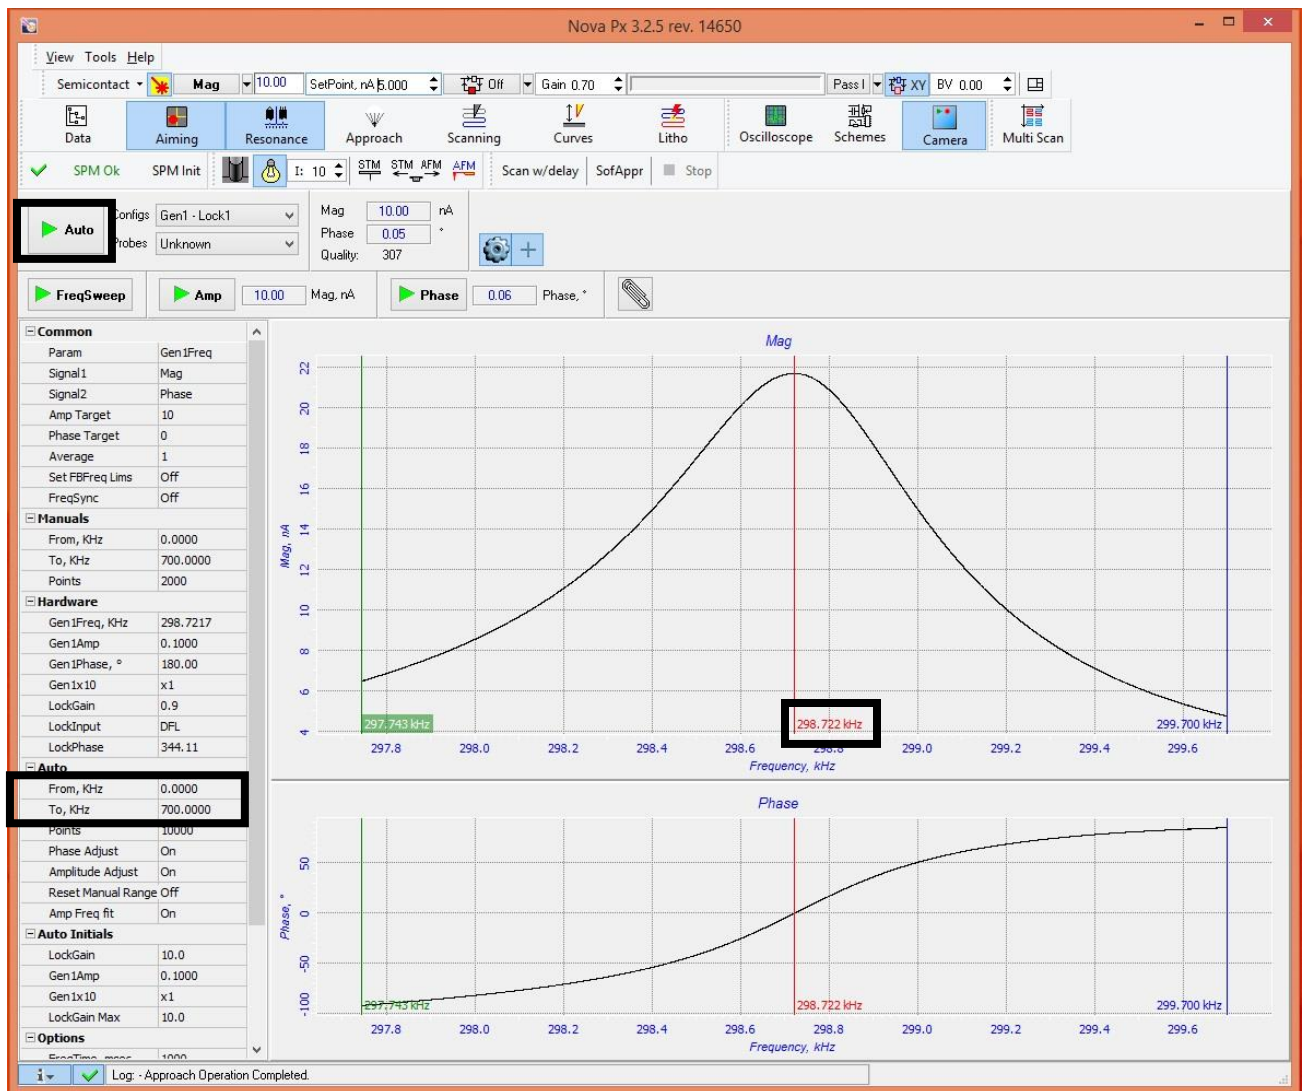

Figure 14: Resonance menu
- Click the “Auto” button in the top left (Figure 14).